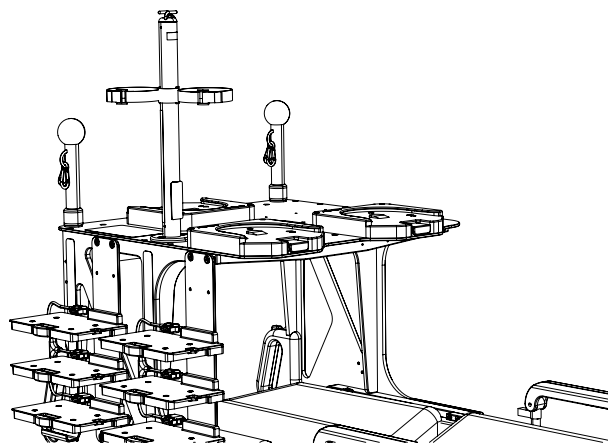

Figure 47: Techni-IV pole and strap installed
7. Depending on the size of the IV bags used, adjust the size of the Techni-IV pole strap using the strap buckles (Figure 47).